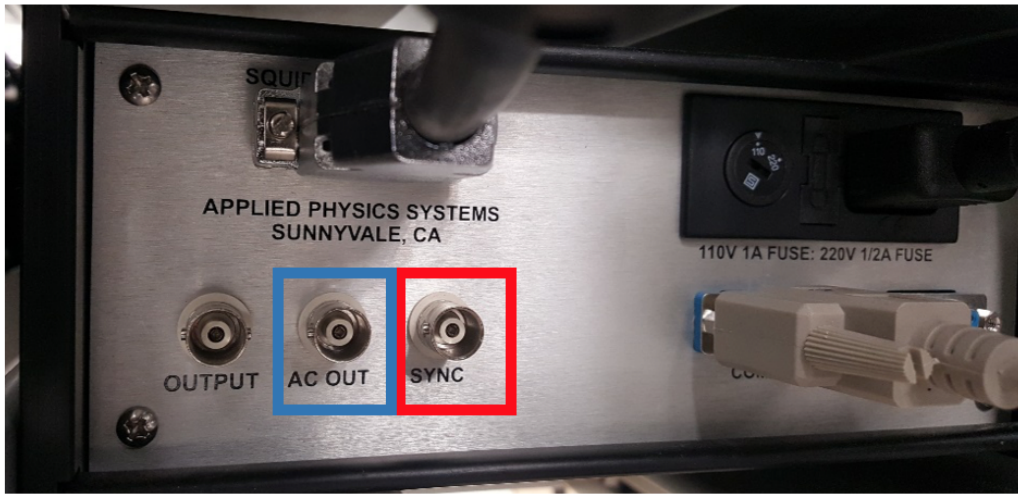

Figure A8: Back of the Z axis 581 DC SQUID Box. Connect AC Out (Blue box) to Channel 1 on the oscilloscope.
2. Connect the oscilloscope Aux IN to the SYNC on the Z axis SQUID box and connect oscilloscope Channel 1 to the AC Out on the back of the Z axis SQUID box. (Figure A8)